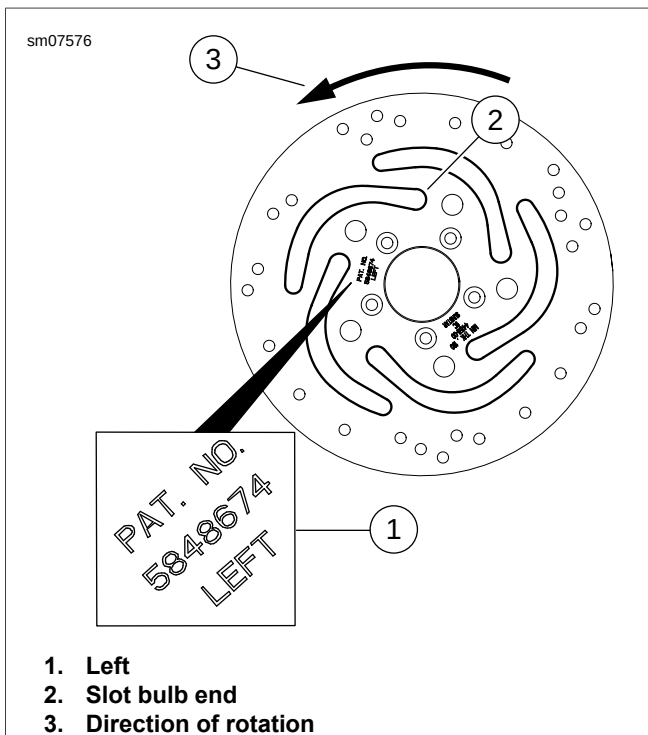

Figure 2-13. Single Disc Orientation
See Figure 2-13. Orient brake discs with the word **LEFT** (1) facing out. Verify that the bulb shaped end (2) of the slots points opposite the direction of rotation (3).